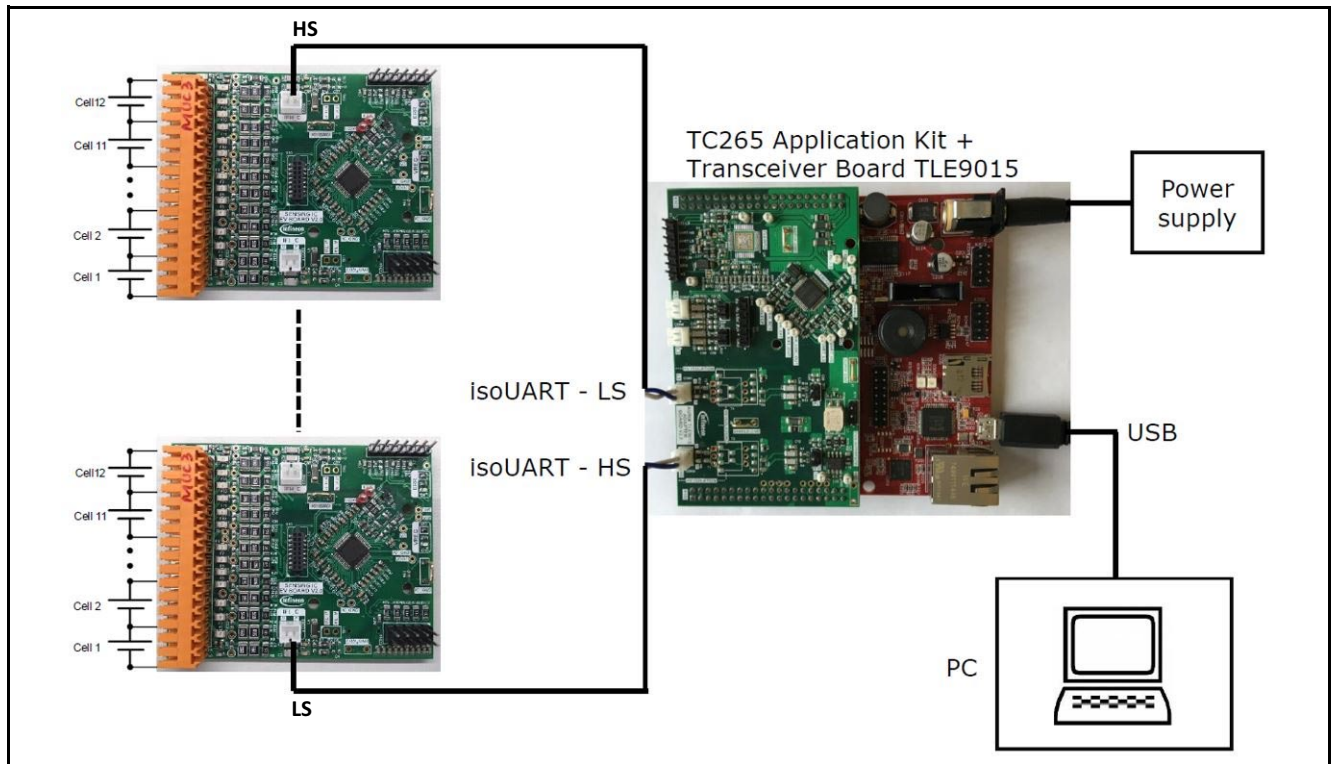

Figure 2 Demo Kit BMS
- The TLE9015QU transceiver board is plugged onto the AURIX™ board (orientation as is Figure 2/Figure 3)